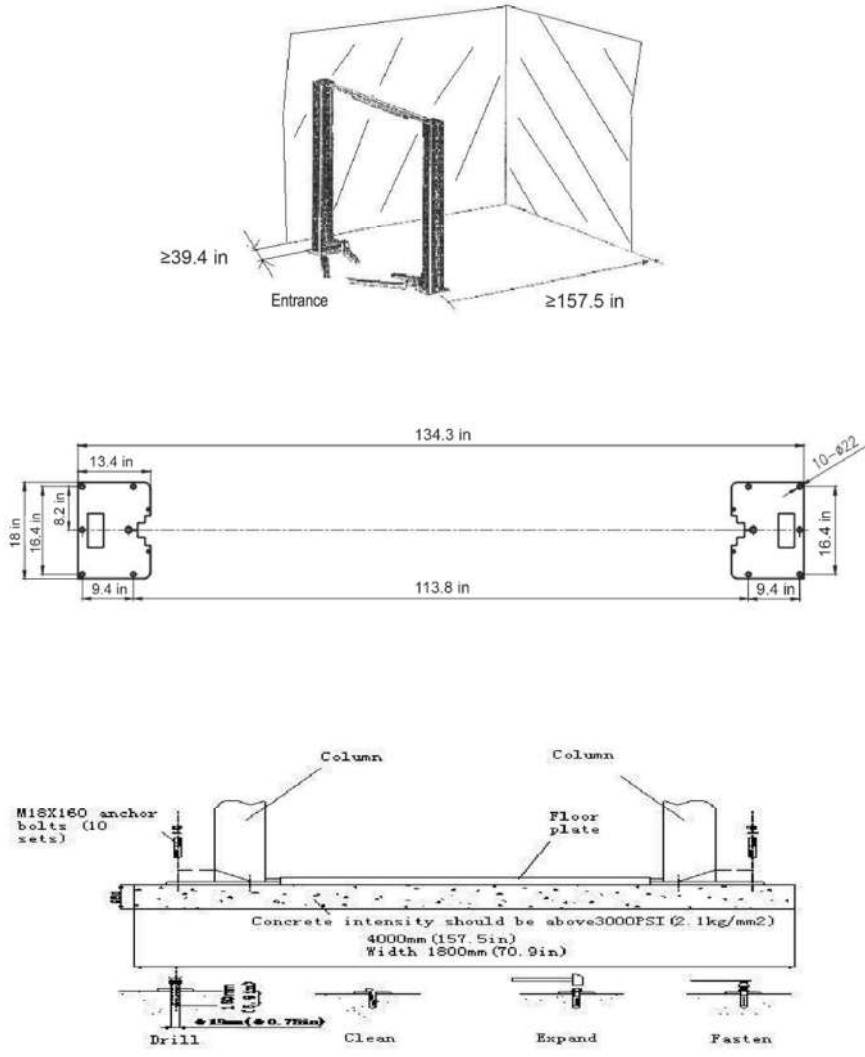

Fig 3
- Layout with a chalk line your concrete floor to the proper layout you want and check for proper clearances. See (Figure 3) for proper dimensions.